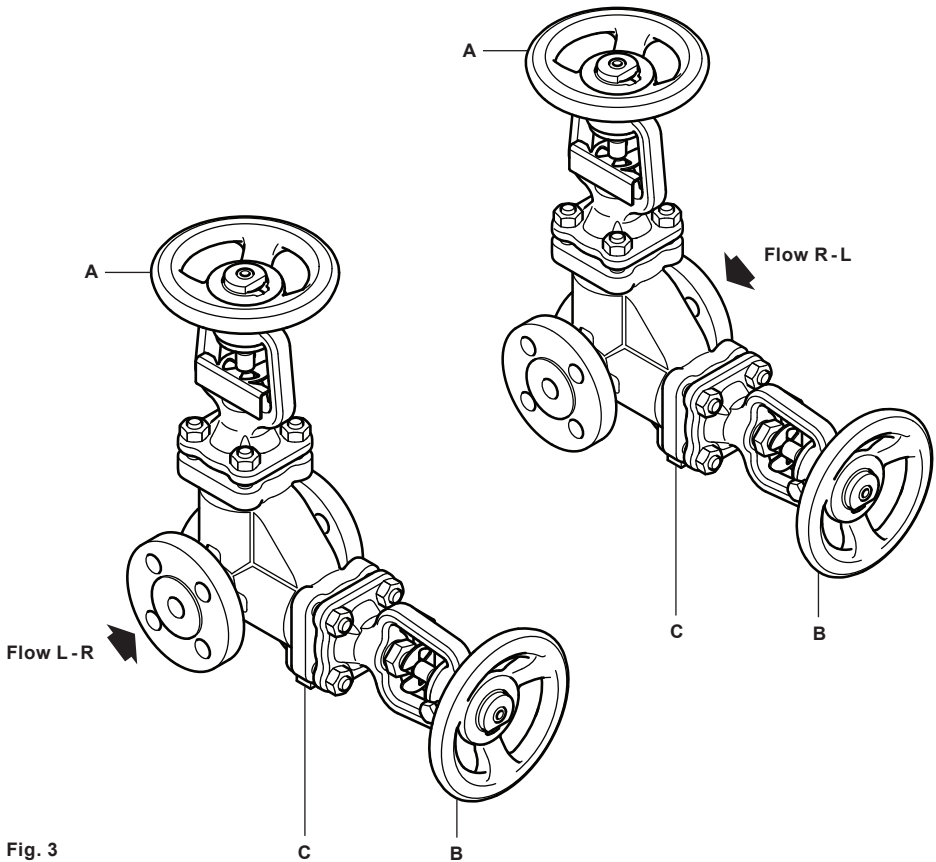

Fig. 3
5.4 A Valve Integrity Test must be undertaken prior to each double isolation of the system. Refer to Figure 3 and the Table below for correct sequence of operation.
5.5 Before undertaking any maintenance of plant downstream of the valve both handwheels should be isolated. Refer to Figure 3 and the Table below for the correct sequence of handwheel operation. When handwheels **A** and **B** are closed and drain port **C** is opened there will be an initial discharge as the valve depressurises. If there should be any visible discharge after a short period, consult Spirax Sarco Service Department.